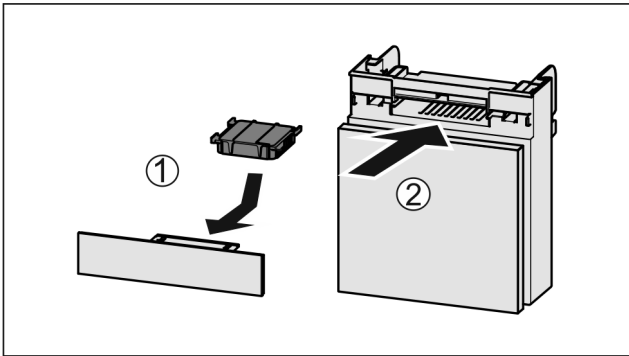

Fig. 129
- ▶ Insert the carbon filter as shown in the diagram Fig. 129 (1).
- ▶ Push the compartment in Fig. 129 (2).